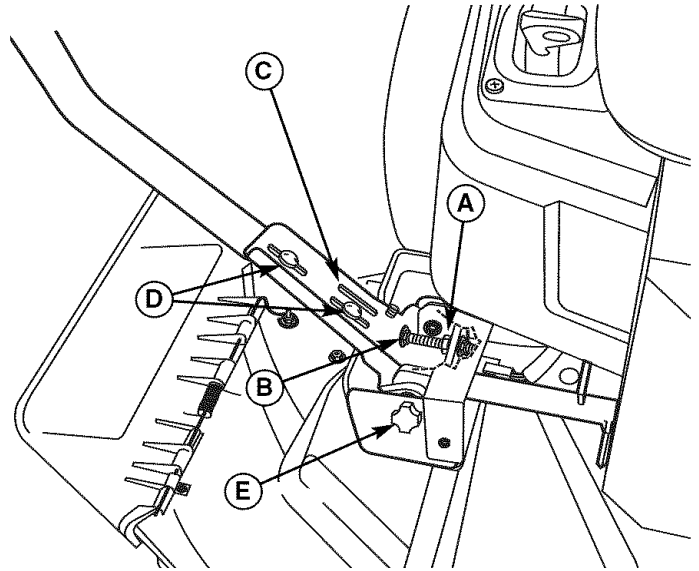
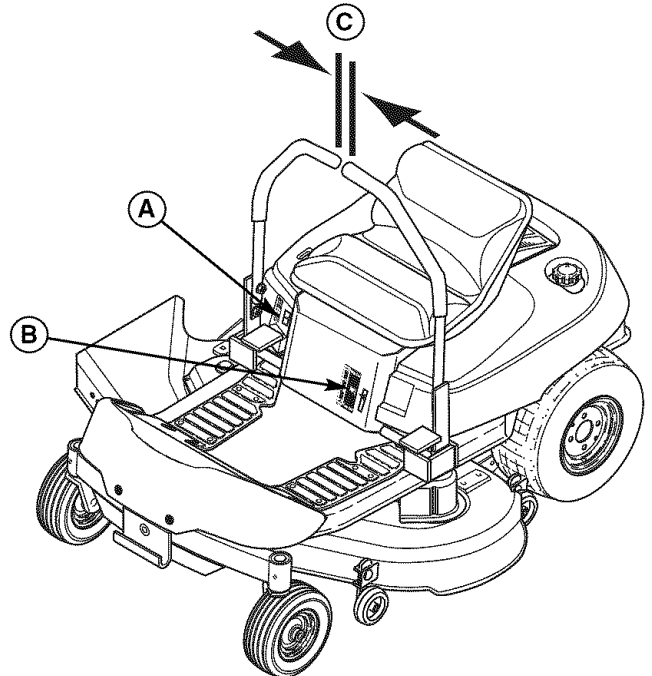

Figure 30 Control Lever Adjustment
Figure 31. Cutting Height Adjustment
To Adjust Control Lever Height: Pull the levers in across the operator's lap to their DRIVE positions. Loosen the mount bolts (D, Figure 30) and raise or lower the levers to the desired position. Tighten the mounting bolts.(D).
To Adjust Control Lever End Gap: The control lever end gap (C, Figure 31) should be adjusted so that the levers do not contact each other when placed in DRIVE positions. Loosen the jam nut (A, Figure 30) and adjust the length of the carriage bolt (B) so that the levers do not contact each other. Repeat on the opposite side. Tighten the jam nut (A) to lock the carriage bolt in position.
To Adjust Operator Clearance: The space between the operator and the control levers can be increase by removing the lower mounting bolt (D, Figure 30), pivoting the lever forward, and reinstalling the capscrew through the control lever and forward slot (C). Repeat with the other ground speed lever.
If the rider veers to the right or left when the ground speed control levers are in the maximum forward position, the top speed of the right lever can be balanced by turning the adjustment knob (E, Figure 30). Loosen the jam nut and turn the knob COUNTERCLOCKWISE to increase speed or CLOCKWISE to decrease speed. Tighten the jam nut when complete.
To increase the mower cutting height (raise the mower deck), press the top of the mower cutting height switch (A, Figure 31) To decrease mower cutting height (lower the mower deck), press the bottom of the switch. Mower cutting height range is 3-3/4" to 1-1/2". The cutting height gauge indicates the position of the mower deck. The cutting height gauge (B) is located on the front of the rider, just behind the driver's left leg.